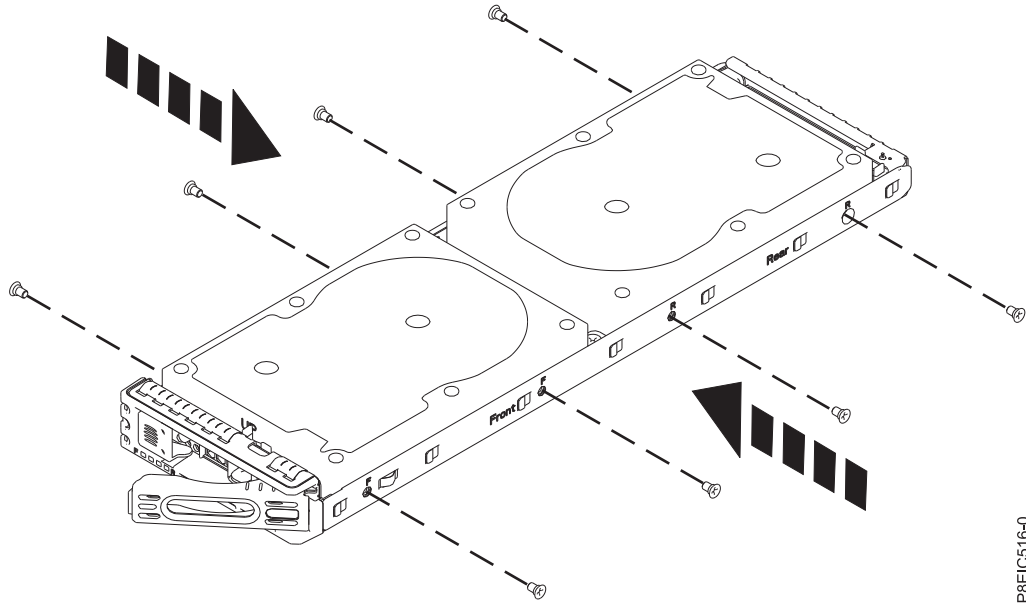

Figure 15. Fastening the 3.5 inch drive to the tray
- b. Fasten the drive to the sides of the tray by using four screws (2 on each side), as shown in Figure 15 on page 17.